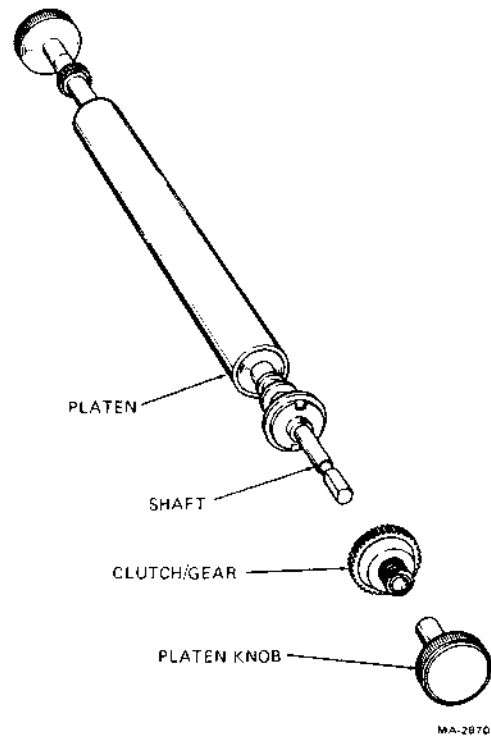

Figure 7-5 Platen Clutch/Gear Assembly
6. Using a small blade screwdriver, lift the tab on the end of the platen knob enough to release the knob from the platen shaft (Figure 7-5).
1. Slide the new assembly onto the shaft. Make sure the tabs on the gear engage the slots in the platen assembly (Figure 7-5).